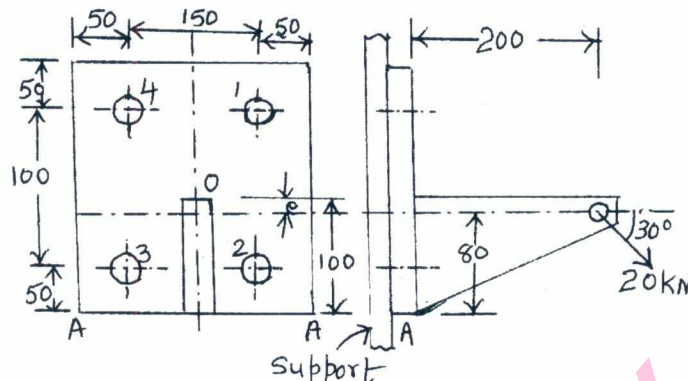

Fig. Q4 (b)
- 4 b. Determine the size of the bolts for the loaded bracket shown in Fig. Q4 (b), if the allowable tensile stress in the bolt material is limited to 80 MPa. (12 Marks)